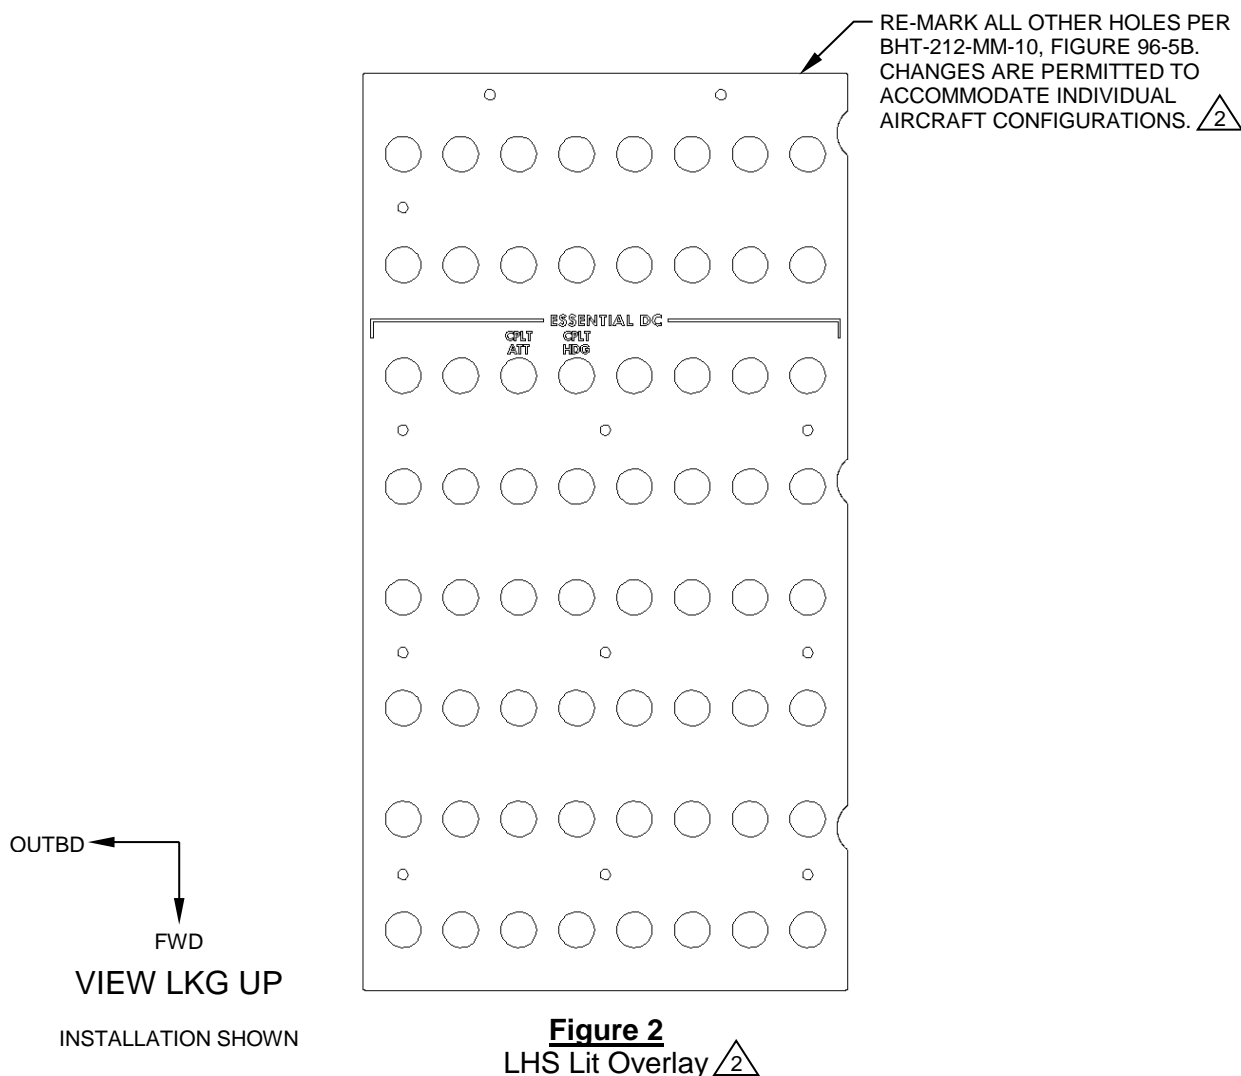

Figure 2
4. Remove the lit overlay on the LHS overhead breaker panel and have it re-marked as shown. Alternately, if only day VFR operations are anticipated, it is permissible to identify Attitude and Heading circuit breakers with locally fabricated “CPLT ATT” and “CPLT HDG” labels. Reference Figure 2.
- i. Do not remove and re-mark/re-label the co-pilot (LHS) lit overlay panel. Reference Figure 2 and Step 4.